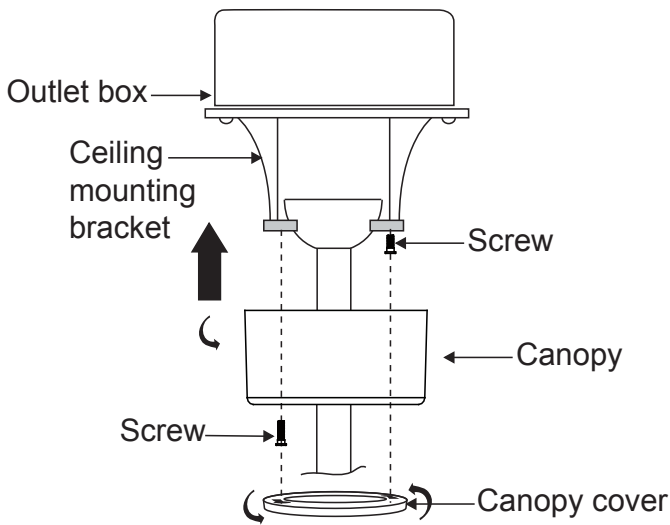

Fig. 14
Step 2. Slide the canopy up to the mounting bracket and place one of the key hole slots over the mounting screw on the mounting bracket. Rotate the canopy until the screw head locks in place at the narrow section of the key hole. (Fig. 14)
NOTE: Adjust the canopy screws as necessary until the canopy and canopy cover are snug. (Fig. 14)